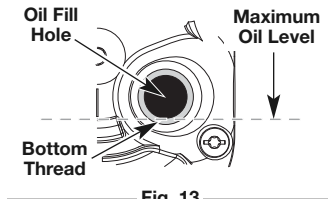

Fig. 13
5. Look into the oil fill hole; use a flashlight if necessary. **The oil level should just touch the bottom thread of the oil fill hole** (Fig. 13). If the oil level is too low, add oil to the oil fill hole until the oil level touches the bottom thread of the oil fill hole.